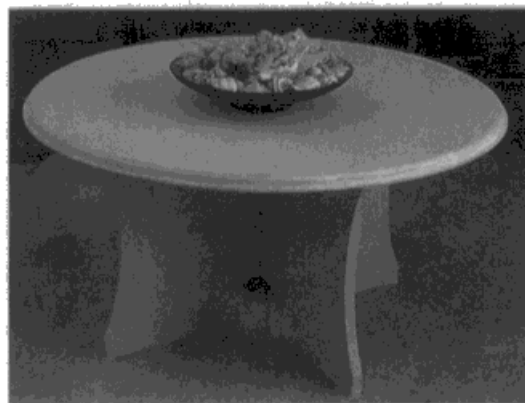

Figure 2
- 2 Figure 2 shows a table made from medium density fibreboard (MDF) that has been painted.